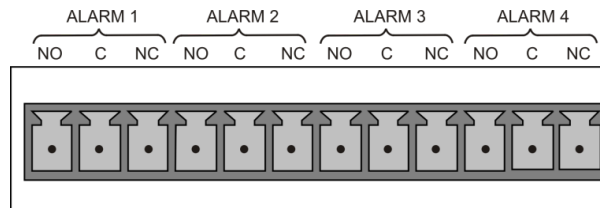

Figure 2-8. Concentration Alarm Relay
The concentration relay option provides four (4) “dry contact” relays on the rear panel (Figure 2-8), each with 3 pins: Common (C), Normally Open (NO), and Normally Closed (NC). The Relays can be mapped to reflect various internal instrument conditions and states. Configure these outputs through the Setup>Digital Outputs menu (Section 2.5.6) under MB Relay [1 thru 4].